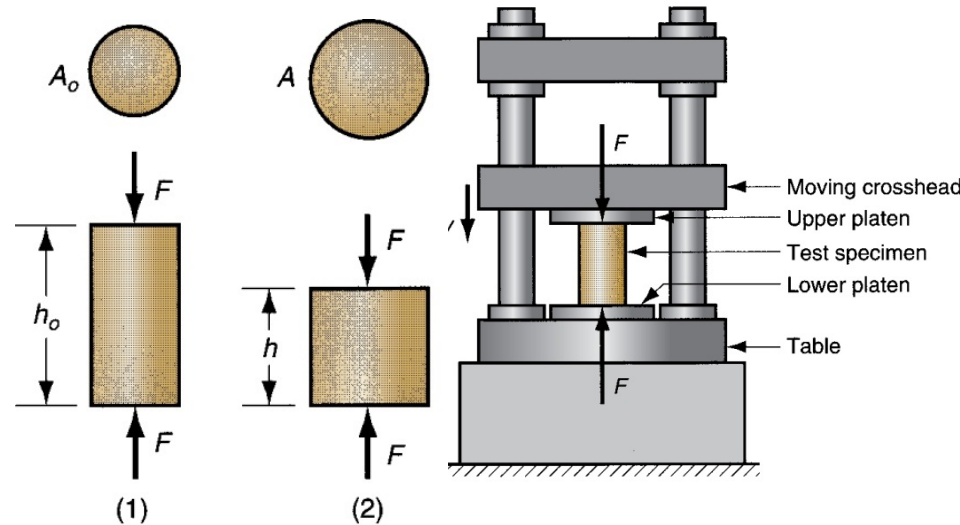

Fig. 13: Compression test: (a) compression force applied to test specimen in (1) and (2) resulting change in height; and (b) setup of the test.
- Compression test: a test that applies a load that squeezes a cylindrical specimen between two platens (see fig. 13). As the specimen is compressed, its height is reduced and its cross-sectional area is increased. The engineering stress is defined in the same way as in the tensile test; i.e.,